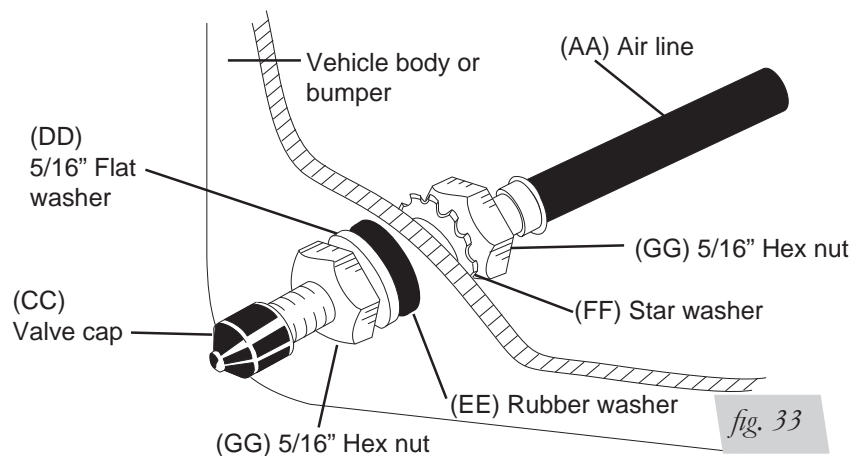

fig. 33
4. Place a 5/16" nut and star washer on the air valve. Leave enough of the inflation valve in front of the nut to extend through the hole and have room for the rubber washer, flat washer, and 5/16" nut and cap. There should be enough valve exposed after installation—approximately 1/2"—to easily apply a pressure gauge or an air chuck (Fig. 33).